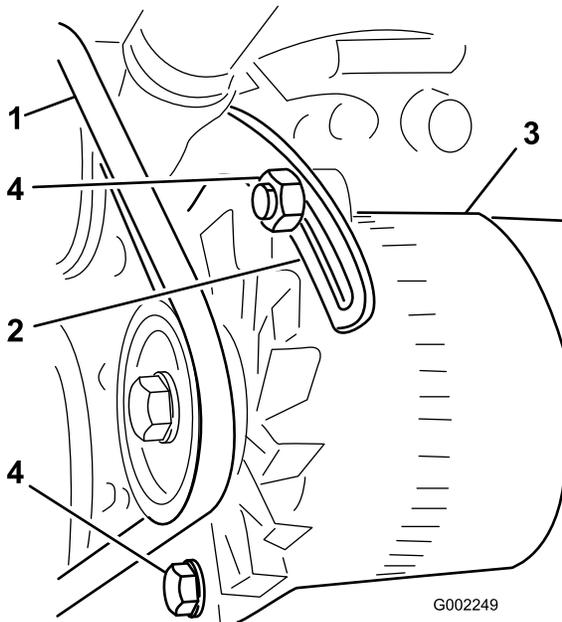

Figure 103
3. Loosen the bolt at the pivot point of the alternator; loosen the bolt that secures the alternator to the slotted brace (Figure 103).